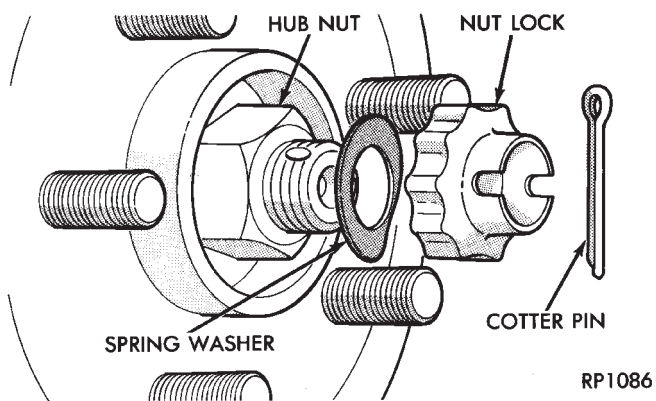

Fig. 2 Hub Nut Assembly
(4) Remove cotter pin, nut lock, spring washer and hub nut (Fig. 2).